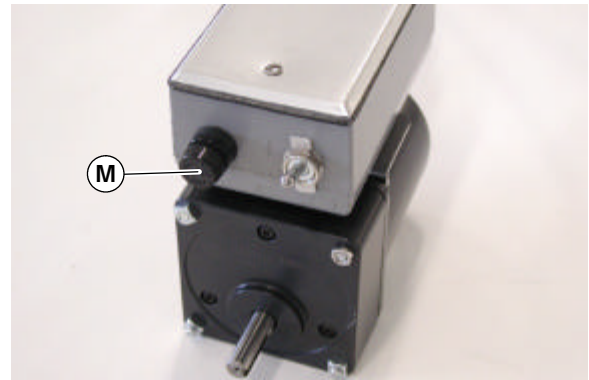

Figure 22
**15.** Push in and turn to open fuse holder cover (M of Figure 22).